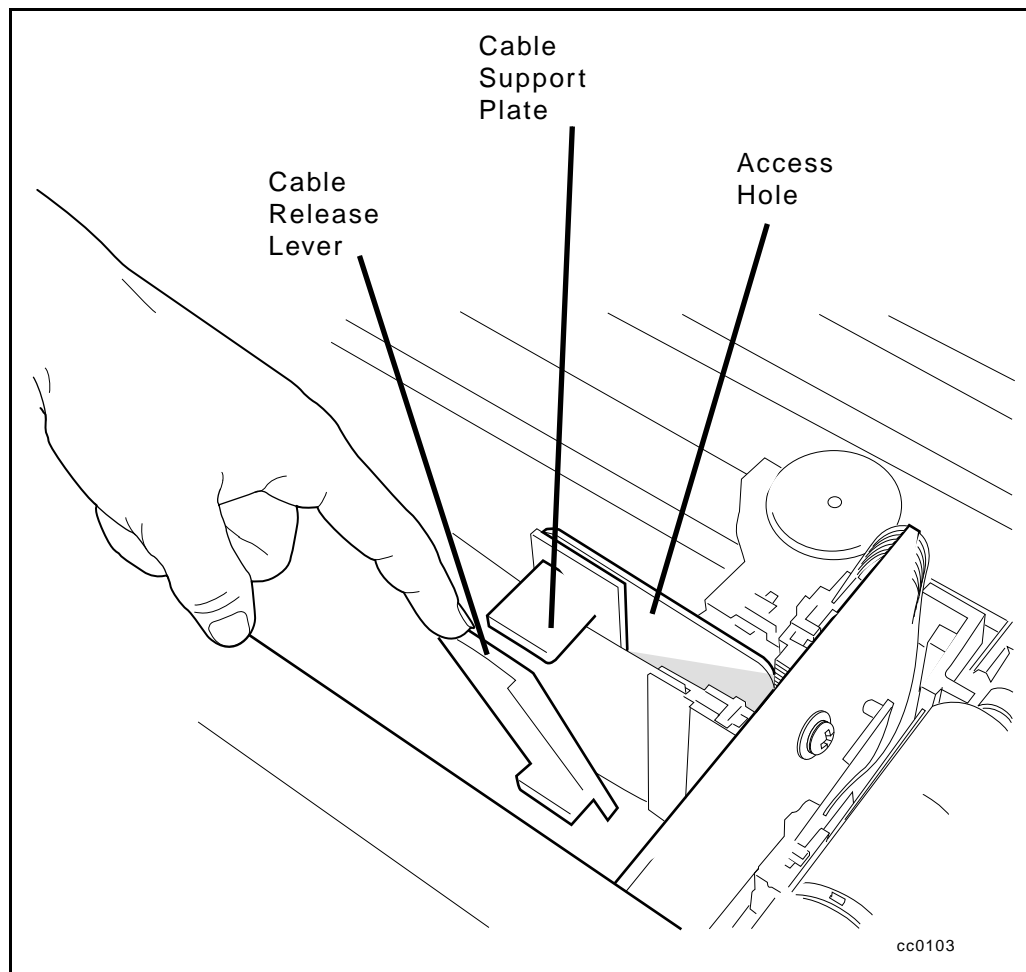

Figure 5-33. Cable clamp tab location
4. Press down on the tab to release the shuttle mechanism cable clamp (see Figure 5-33).
5. Tighten the tab on the shuttle mechanism cable (see Figure 5-33).